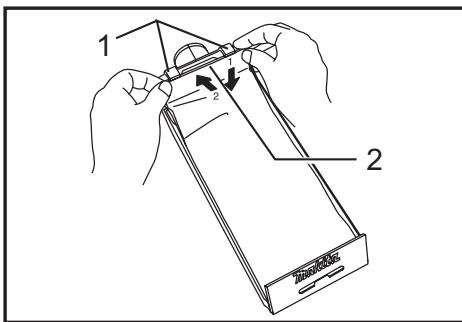

Fig.7
- Fig.7: 1. Claws 2. Upper part